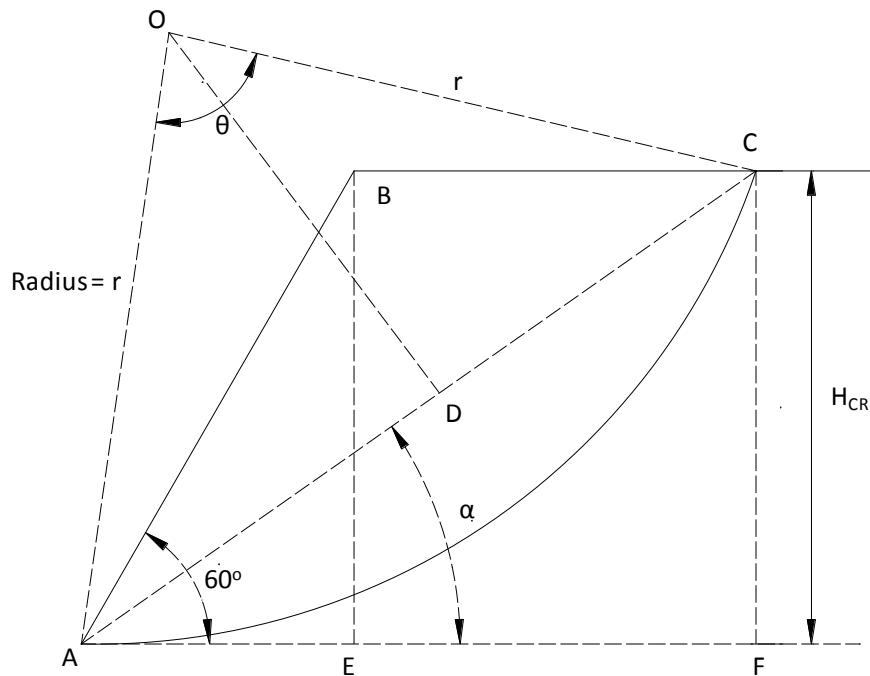

Figure 1
- (c) A contractor attempts to cut a slope in soft clay with an angle of  $60^\circ$  for a temporary excavation in the hillside of a housing sub-division (Figure 1). However, when the excavation reaches a height of 10 m, the cut slope fail. An investigation carried out after the failure shows that the soil has failed along a circular arc with the critical circle forming a toe circle. Given:  $c_u = 35 \text{ kN/m}^2$  and  $\gamma = 18.5 \text{ kN/m}^3$ . (Refer Appendix 1 and 2)